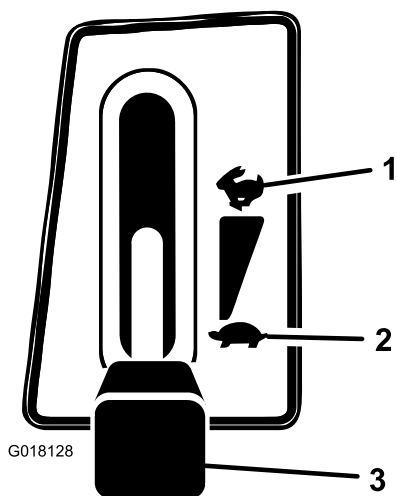

Figure 10
1. Push the blade control (PTO) to the Off position (Figure 10).
2. Shift the throttle lever to Slow (Figure 10).
5. After the engine starts, slowly shift the throttle lever to Fast and push in the choke lever (Figure 10). If the engine stalls or hesitates, shift the throttle lever back to Slow and pull out the choke lever for a few seconds and then shift the throttle lever to Fast. Repeat this step as required.
1. Shift the throttle lever to Fast (Figure 10).